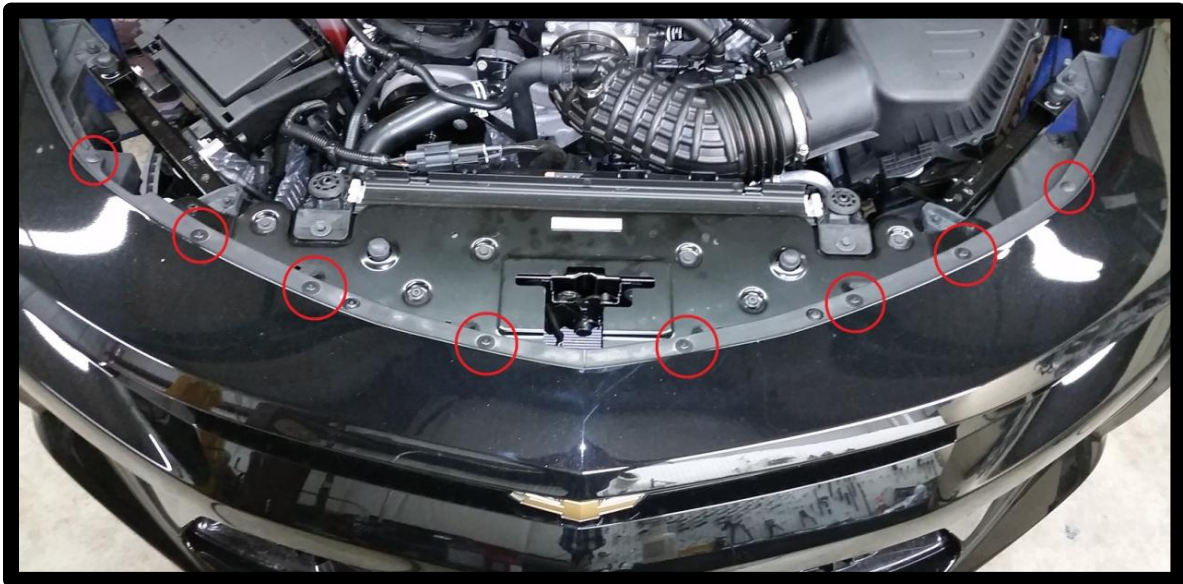

Figure 7: Upper Fascia Mounting Hardware
6. Remove the upper fascia mounting hardware, see Figure 7.